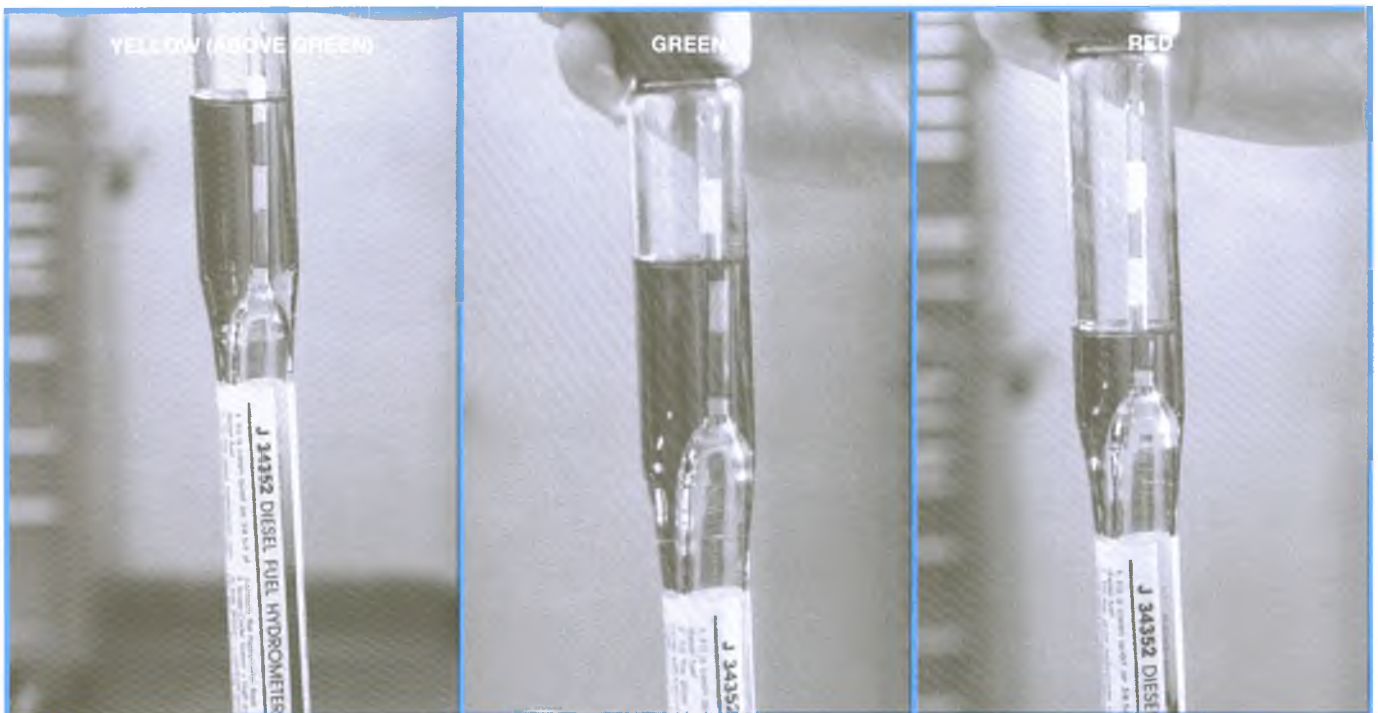

Figure 7-61, Fuel Specific Gravity Check
4. Read the scale on the glass bulb at the point where the top of the fuel sample contacts it (see Figure 7-61):